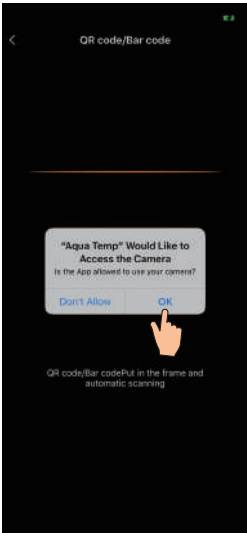

Fig.15 Scanning interface
5. Click "OK" (Fig.15) to allow the App to use the camera for scanning the **WF barcode** on the heat pump unit (Fig.16);